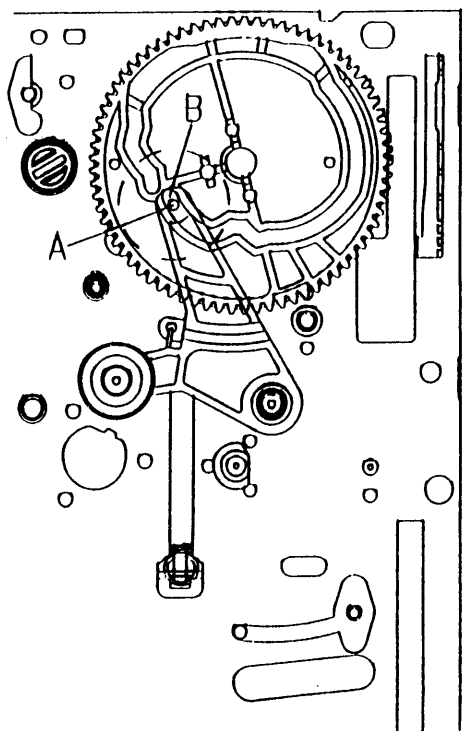

Fig. 4-4 DATUM POSITION OF PINCH LEVER TOTAL ASS'Y & CAM GEAR
- d). Make sure that the boss "A" of the PINCHLEVER TOTAL ASSEMBLY is positioned at the point "B" of the CAM GEAR as shown in Fig. 4-4.